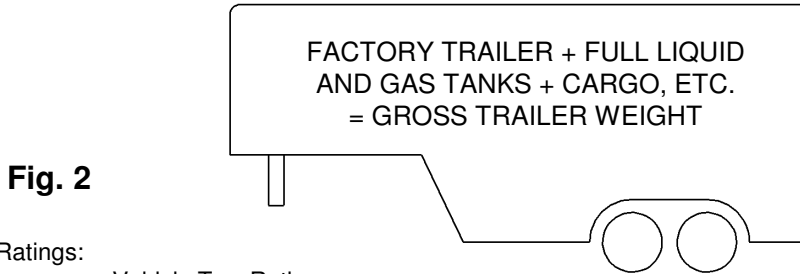

Fig. 2
- Towing vehicle must have a manufacturer’s rated towing capacity equal to or greater than the gross trailer weight (dry weight of the trailer plus payload of the trailer). (See Fig. 2)
Gross Trailer Weight (Fig. 2): _____